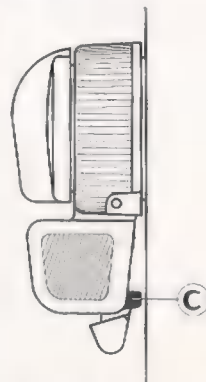

Fig. 30
3. Push lever a (Fig. 28 and 29) to the back in the direction of the arrow, in order that it comes into the position shown in Fig. 30.
In this way the locking catch c (Fig. 30), which determines the width of stitch for the bead and for the lock, comes into its working position.
5. After the stop c (Fig. 30) has been brought into the working position by moving the lever a, take hold of the lower part 12a of the knob 12, draw it to the front end, swiveling it in such a way that the pawl c comes to lie against the stop pin I. On the scale the number 1.5 must stand approximately opposite the mark b.